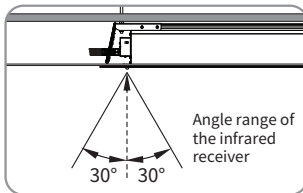

Figure 12
3. Receiver effective angle:  $\pm 30^\circ$  from the receiver axis (Figures 12–13).